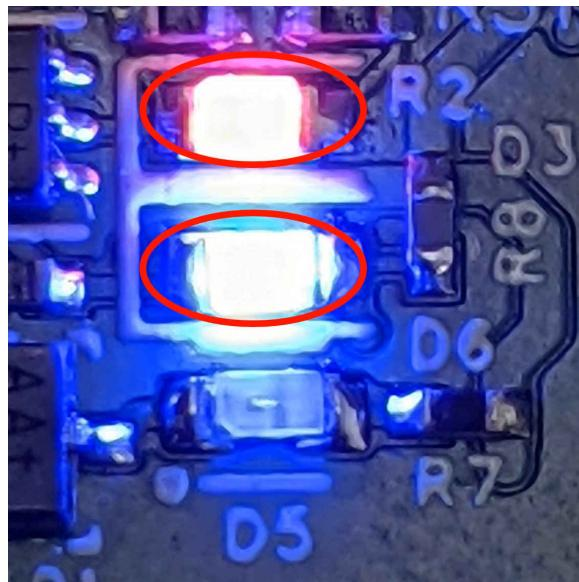

Figure 4-8. Flash Programming Operating Mode LED Status
4. Power-on the EVM. **Figure 4-8** shows the LED status of the EVM when in the *Flash Programming* operation mode.